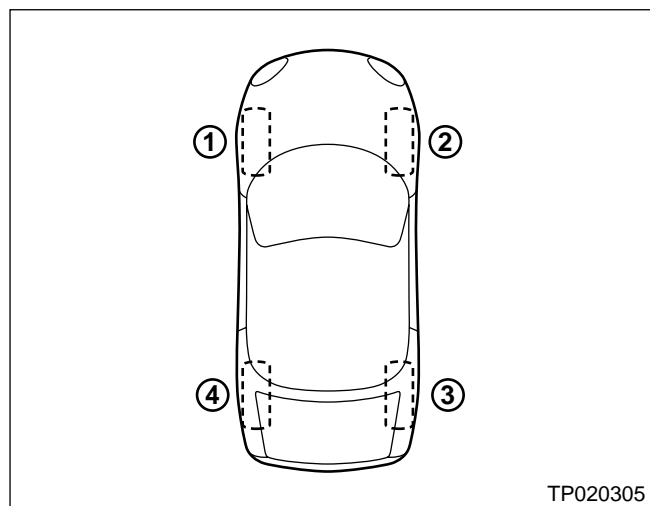

Figure 2
- Initialization of valve stem/air pressure transponders must be done in the following **clockwise** order (see Figure 2 below for an illustration):